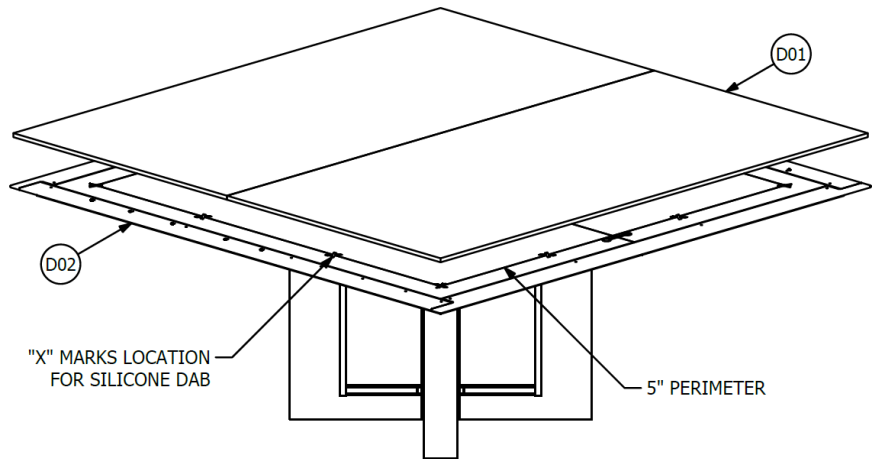

FIGURE 08: ALTERNATIVE MATERIAL TOP ASSEMBLY
1. Place a 1/2" Dab of Silicone (Y08) provided on marked locations of Subtop (D02) approximately 5" in from the Edge. See Figure 08.
2. Position **All** Top (D01) sections on Subtop (D02). See Figure 08.
3. If equipped with Edge Trim (F01), position the Top (Suction cups are recommended) so that an equal amount (1/4") of Edge Trim Shows. If not equipped with an Edge Trim, center the Top on the Subtop. See Figure 08.